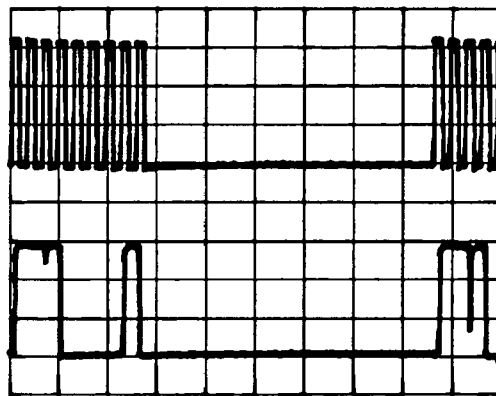

Figure 8-36. A2A10 HNR1 Test Point
22. Connect channel 2 to A2A10TP HNR1. The waveform should be as shown in figure 8-36.